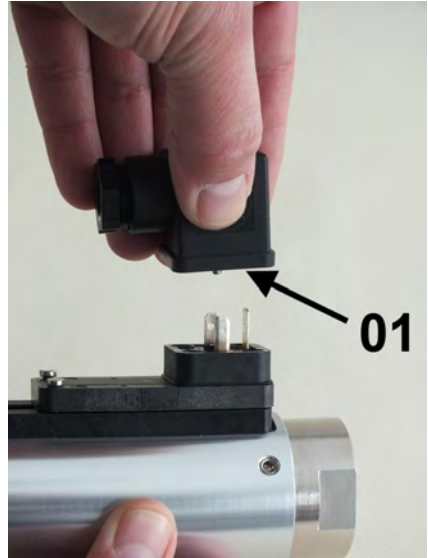

Fig. 53: Remove the female socket
2. ➤ Remove the female socket and gasket (Fig. 53/1) by pulling upwards.